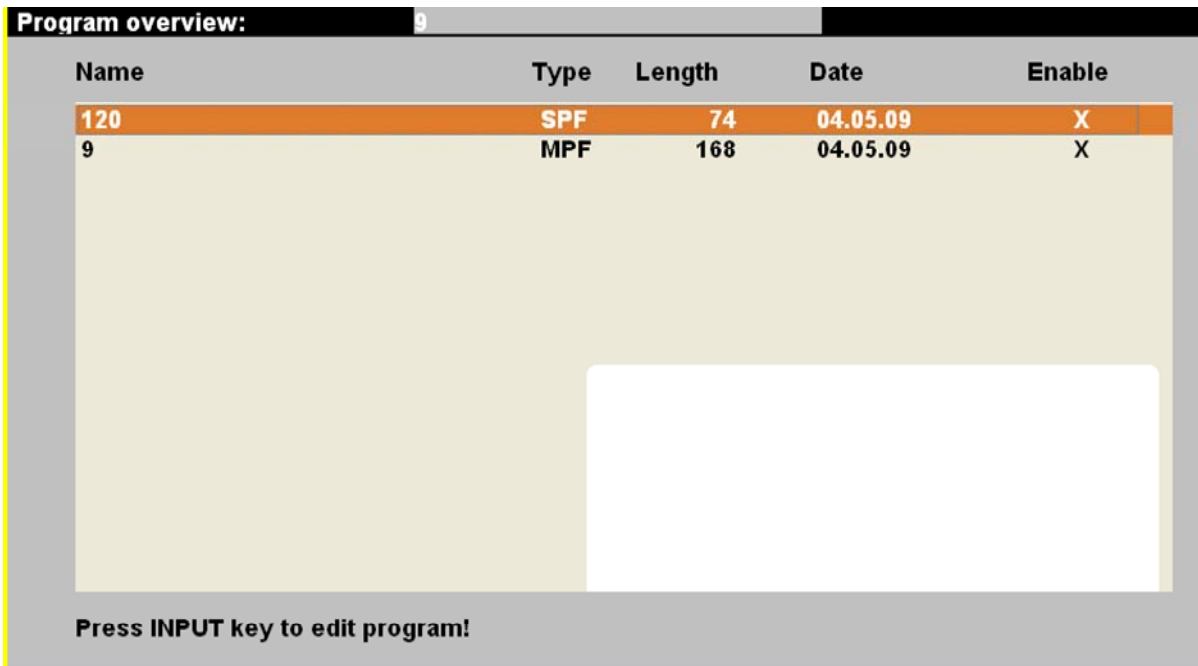

Fig.6.20: Shows the program overview.
31. click on "9" to open the "program overview" as shown in Fig. 6.20